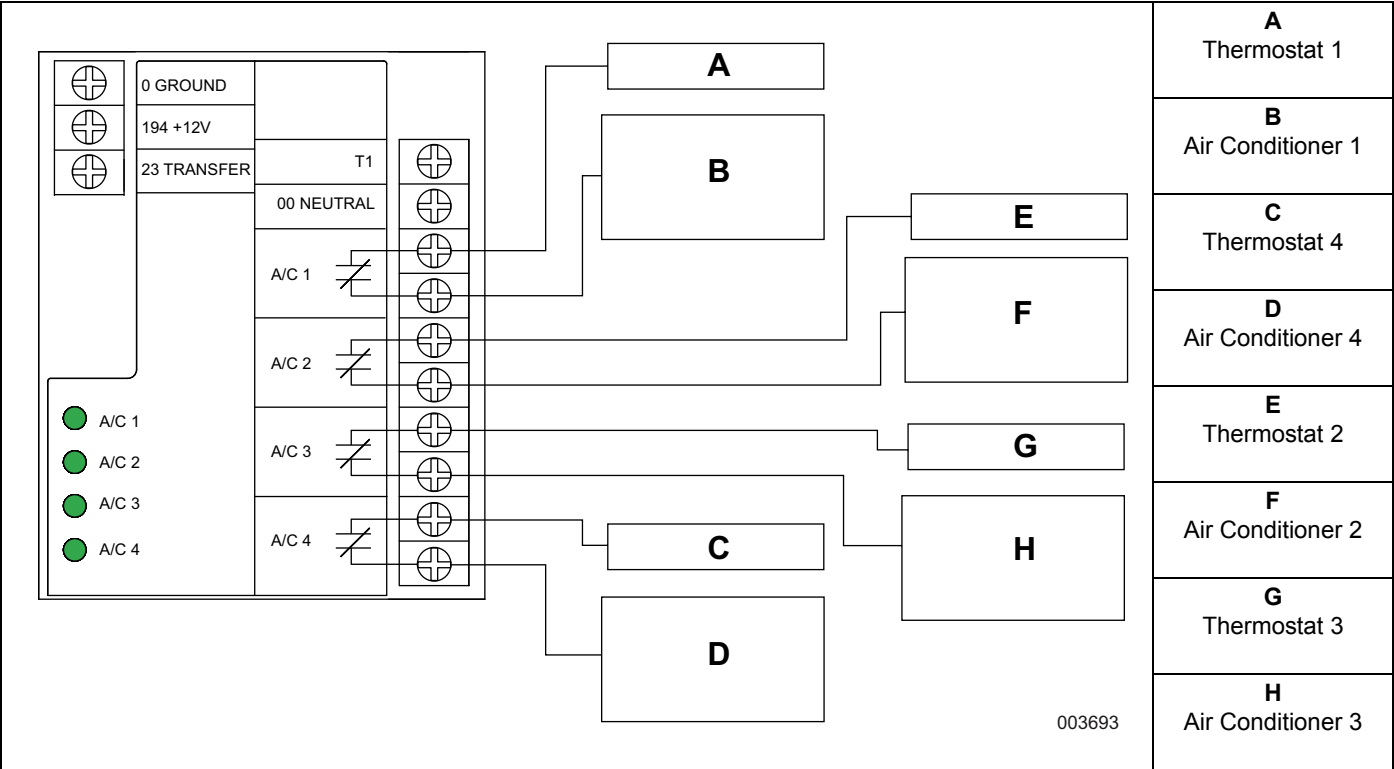

Figure 3-6. Typical SACM Connections
See Figure 3-6. The Smart A/C Module (SACM) can control an air conditioner (24 VAC) directly.
- 2. Connect the wire to the terminal strip terminals (A/C 1) on the SACM as shown in Figure 3-6. These are normally closed contacts which open upon load shed